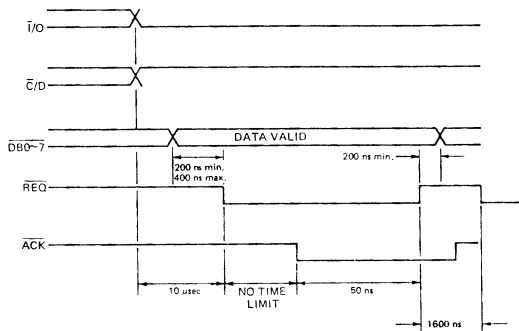

Figure 9
- Fig. 9 illustrates the required timing for data transfer to Host.